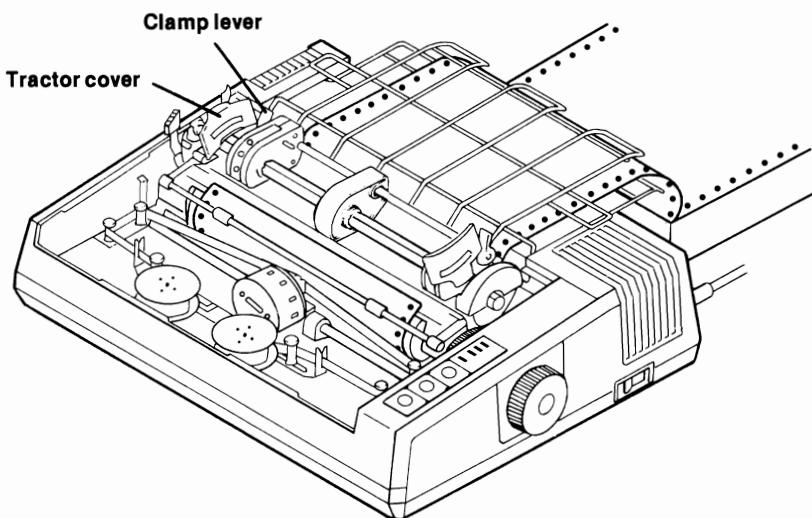

Figure 2-9. Expose the "teeth" of the sprockets, and align the mechanisms so the paper "feeds" through them.
11. Open the tractor covers atop the right- and left-sprocket mechanisms, as shown in Figure 2-9.